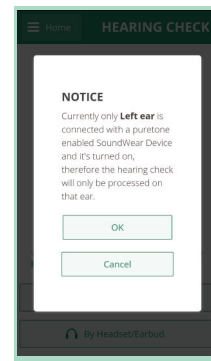

Fig. 13
Step 2: Follow hearing check guiding steps and confirm/acknowledge active reference tone at each frequency testing/measuring. (Fig. 13)